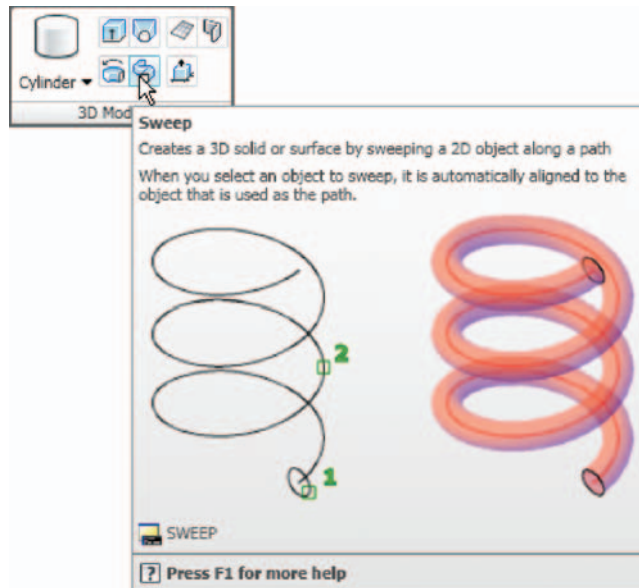

Fig. 12.37 Selecting the Sweep tool from the Home/3D Modeling panel
To call the tool *click* on its tool icon in the **Home/3D Modeling** panel (Fig. 12.37).
3. Place the window in a **View Cube/Isometric** view and *click* the **Sweep** tool icon (Fig. 12.37). The command line shows: